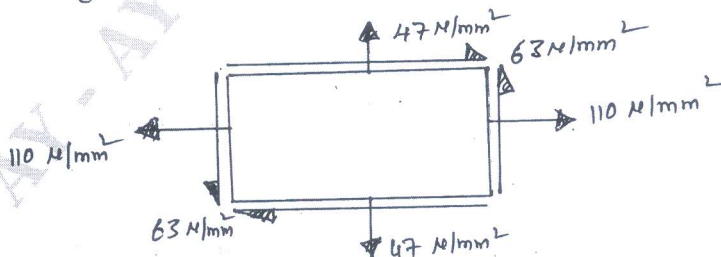

Fig.Q3(c)
- c. A rectangular block of material is subjected to a tensile stress of  $110 \text{ N/mm}^2$  on one plane and a tensile stress of  $47 \text{ N/mm}^2$  on a plane at right angles, together with a shear stress of  $63 \text{ N/mm}^2$  on the same planes as shown in Fig.Q3(c). Find